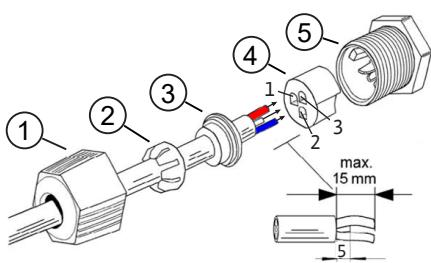

Fig. 19: Quicken connector
2. Remove the signal cable line sheathing (approx. 15 mm). The wire ends must be flush with the splice ring (Item 4) or may protrude max. 2 mm, see Fig. 19.